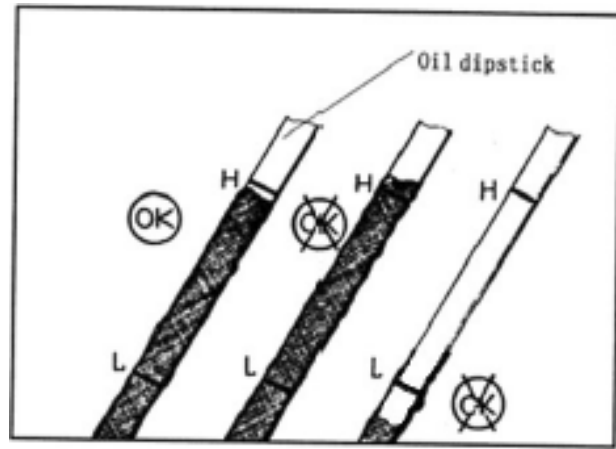

Figure 12. Engine Oil Dipstick
- a. Check oil level. (Refer to Figure 12)